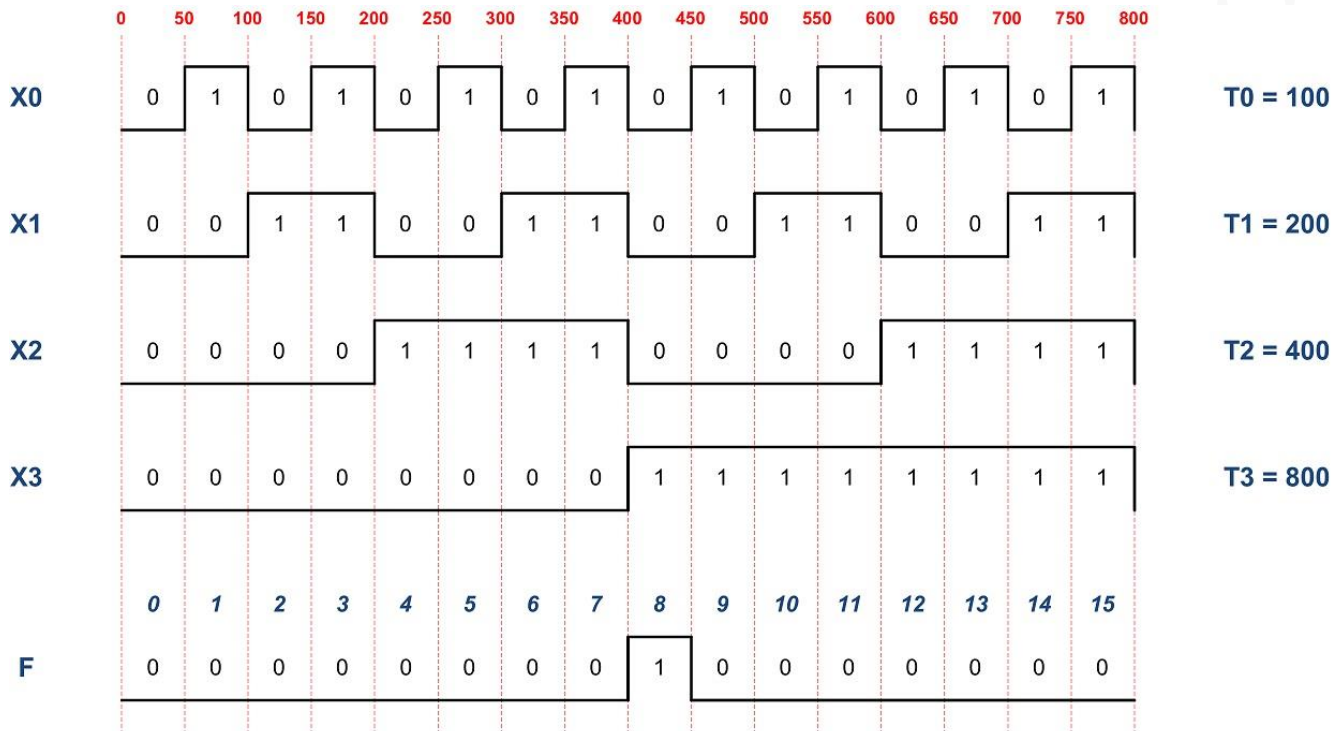

Figure 3 Exhaustive test input generation for function $F(X0,X1,X2,X3) = \sim X0 \& \sim X1 \& \sim X2 \& X3$
To simulate your circuit, a vector waveform File must be created. This specifies the inputs to the circuit. To do this click on **File->New** then select the **Verification/Debugging Files** tab and select **Vector Waveform File**. That will open a file typically called Waveform1.wmf. In the left window of that file, right click and select Insert Node or Bus and then click on the **Node Finder** button. In the filter tab scroll up and select **Pins: Input** and then click the **List** button to show all input pins. Click on the ">" arrow to add these input pins sw(0), sw(1), sw(3), and key(0) to the **Selected Nodes** column. You could repeat this for **Pins: Output** (ledg[0], ledg[1], ledr[0]) but this is not necessary as the simulator adds all outputs by default, then click **OK**. For simulation you need to set a series of '0's or '1's to inputs (input test pattern). To assign periodic values, right click on a signal and select **Value->Clock** and then set the following period for each signal (Table 1). It will switch each signal between '0' and '1' at a certain interval. By choosing intervals that increase by a factor in power of two ($2^{\text{number_of_inputs}}$), all possible combinations of inputs will be generated (Figure 3).